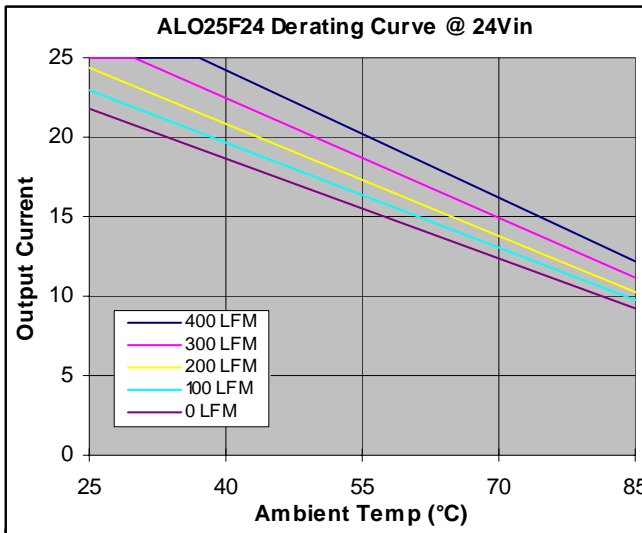

Figure 11. Output Current vs. Temperature at  $V_{IN} = 24\text{V}$ ,  $I_O = \text{Full Load}$ ,  $T_A = 25^\circ\text{C}$ .
4. Output power derating applies at elevated temperature. Refer to Figure 11.